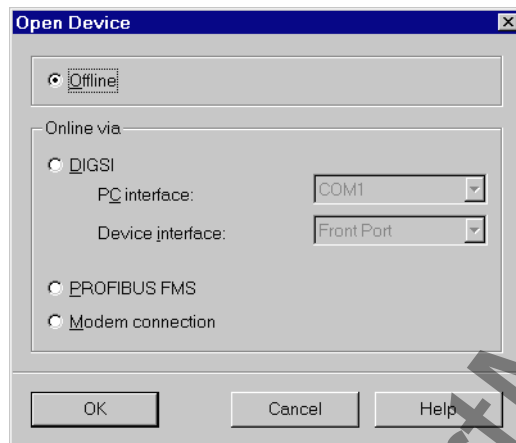

Figure 9-3 , dialogue field **Open Device**
- ❑ Double click on this item. The **Open Device** dialogue box opens, as shown in Figure 9-3.